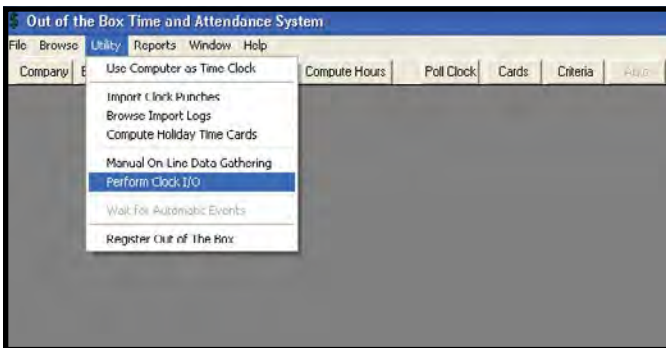

Figure 21. Out-of-the-Box™, Perform Clock I/O
9. The communication settings must then be checked via the “Perform Clock I/O” command. Begin by clicking “Utility” > “Perform Clock I/O” (see Figure 21).